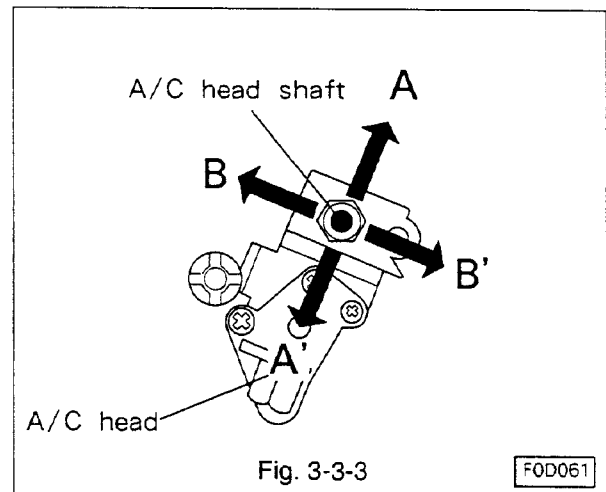

Fig. 3-3-3
- Apply a force lightly to the A/C head shaft in the direction of A and A' of the arrow shown in Fig. 3-3-3, to make certain that the audio output level remains at maximum level and does not change.
- If the level changes, turn the nut A (height adjusting) so that the audio output level is maximum. Apply a force lightly to the A/C head shaft in the direction of B and B' of the arrow shown in Fig. 3-3-3 and adjust so that the sound output level is maximum.